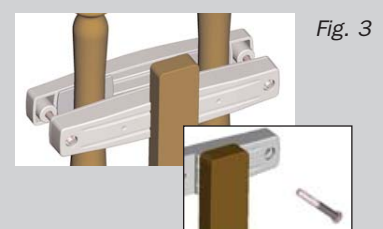

Fig. 3
5. Insert the supplied bolt (two different lengths are provided) that will have the least amount of exposure through the Clamp Back Piece and screw partially into the Back Clamp. Do this for both the Top Clamp and the Bottom Clamp. (Fig. 3).